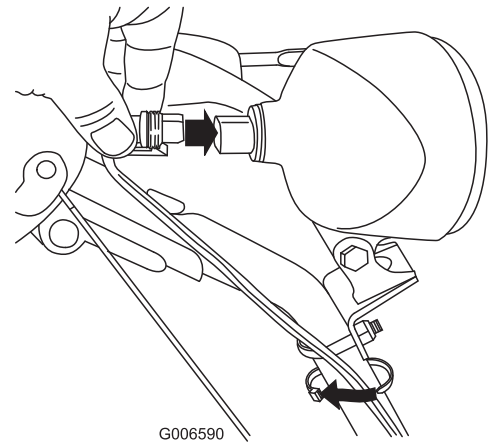

Figure 56
6. Insert the wire connector straight into the back of the headlight until it is securely in place (Figure 56).